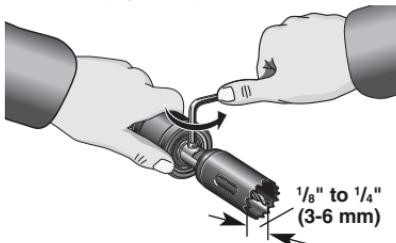

Figure 16 – Installing the Pilot drill
3. Insert the new pilot drill into the shaft so that the tip extends  $\frac{1}{8}$ " to  $\frac{1}{4}$ " (3 to 6 mm) past the edge of the hole saw, aligning the flat on the shaft of the drill with the set screw (Figure 16).